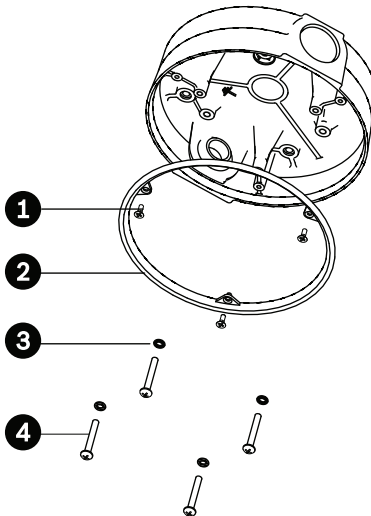

Figure 4.6 O-ring and retaining ring placement for outdoor installation
3. Drill the four (4) holes in the installation location. Use a minimum screw length of 10 mm (.39 in.).
5. Thread the four (4) 3.97 mm I.D. by \varnothing 1.78 mm O-rings (Item 3, *Figure 4.6*) onto the four (4) M4 or #10 user-supplied pan head screws. The O-rings are supplied with the AutoDome Junior Outdoor Camera.
- b. Thread the flat side of the gasket (item 1, below) onto the recessed side of the retaining ring (item 2). The illustration below shows a cross-section of the gasket on the retaining ring.